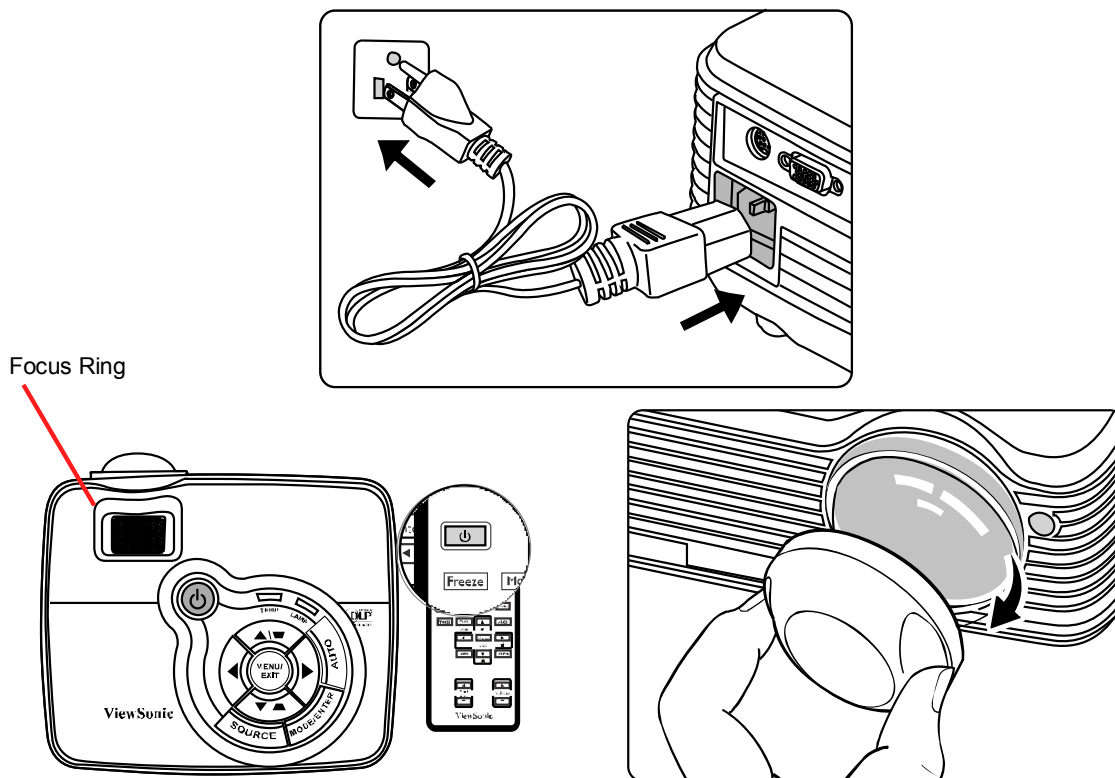

Figure 9. Projector Power Up.
1. Plug the power cord into the projector and into a wall socket as shown in Figure 9. Check that the **POWER indicator light** on the projector flashes blue after power has been applied.
2. Remove the lens cap. If the lens is covered, the lens cap could become deformed due to the heat produced by the projection lamp (see Figure 9).
3. Press  **POWER** on the projector or remote control to start the projector. The **POWER indicator light** stays blue when the projector is on (see Figure 9).